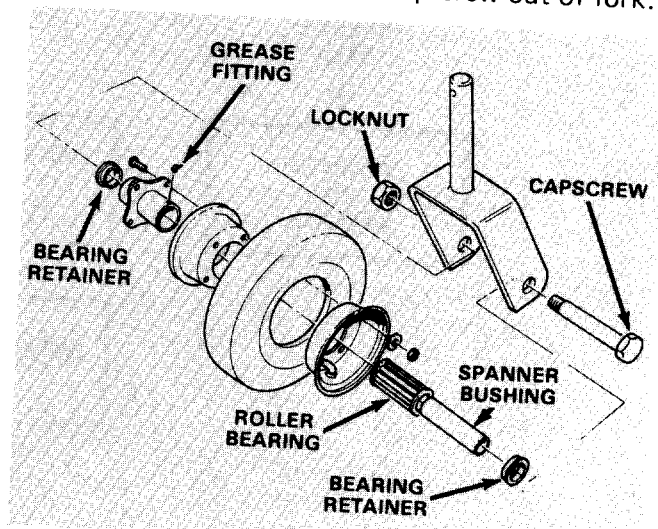

Figure 13
1. Remove locknut from capscrew holding castor wheel assembly between castor fork (Fig. 13). Grasp castor wheel and slide capscrew out of fork.
2. Tip wheel to the side and allow spanner bushing to fall out (Fig. 13).
6. Pump grease through grease fitting on wheel (Fig. 13) until bearing is greased thoroughly.